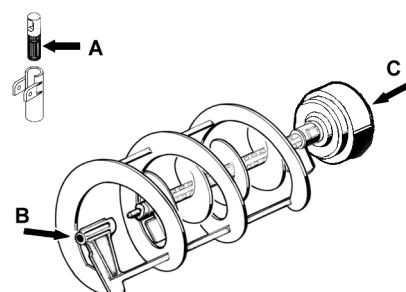

figure 11
- 2** Lubricate faucet piston, inside auger and outer spiral (see points A, B and C of figure 11) only with the grease supplied by the manufacturer or other food grade approved lubricant.